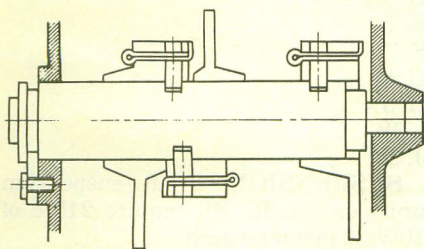
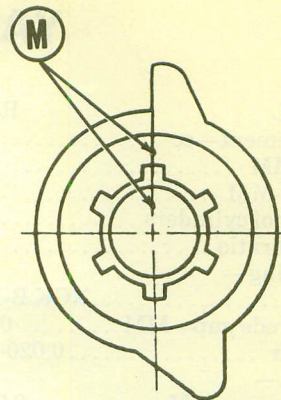
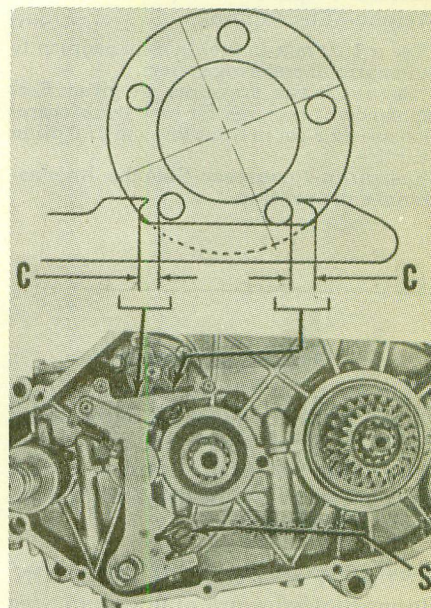

Fig. Y8-23—When installing the shift drum and forks, install cotter pins through guide pins in direction shown. Be sure that forks do not touch cotter pins.
Fig. Y8-24—Align marks (M) on ratchet (14—Fig. Y8-20) and shaft (9) when assembling.
Fig. Y8-25—Turn the eccentric screw (S) until clearance (C) is the same on each side of shift drum pins.
When assembling, make sure that cotter pins for the guide pins are installed in direction shown in Fig. Y8-23 and do not touch shift forks. Marks on end of kick starter ratchet and pedal shaft should be aligned as shown in Fig. Y8-24. Install the crankcase lower half making sure that screws are tightened in sequence stamped on lower half. The 6MM screws should be tightened to 87 inch-pounds torque and the 8MM screws should be torqued to 174 inch-pounds. Adjust position of eccentric screw (S—Fig. Y8-25) until clearance (C) between shift ratchet and shift pins is the same.